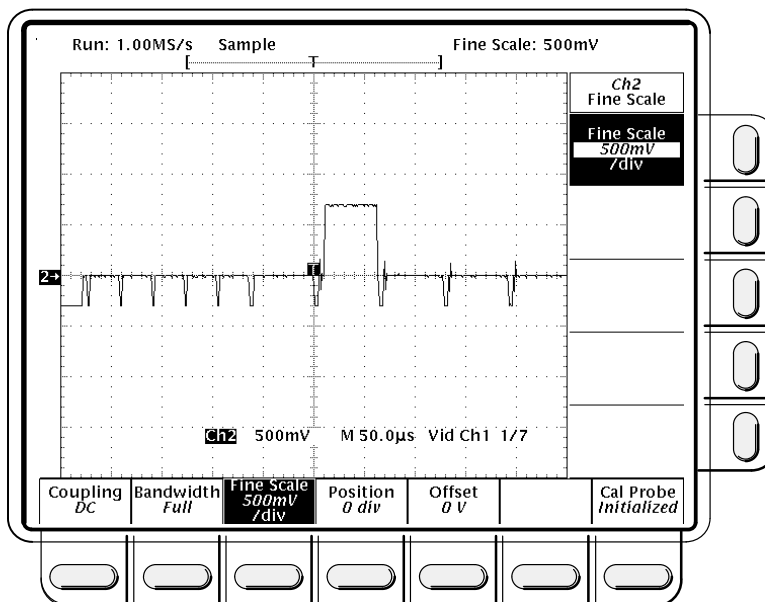

Figure 1-35: 60 Hz Rejection Test Result
- CONFIRM that the **TRIG'D** LED stays on and that the waveform on screen is stable. Stable means the waveform does not move horizontally or vertically. Also, confirm that the waveform on the screen has one positive pulse and a number of negative pulses (See Figure 1-35).